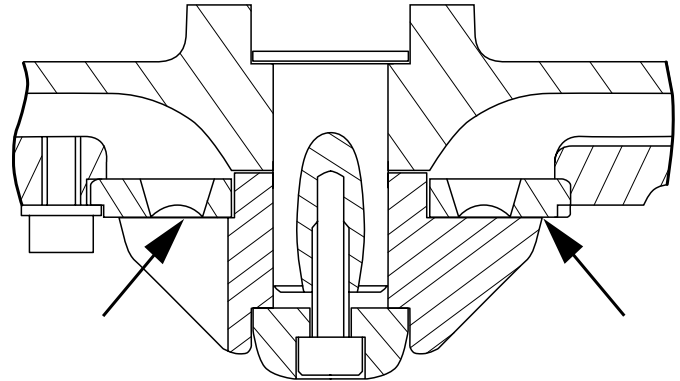

Figure 6: Cutting clearance measurement location.
5. Using a feeler gauge, measure the cutting clearance between the cutting rotor and the cutting plate. See Figure 6.